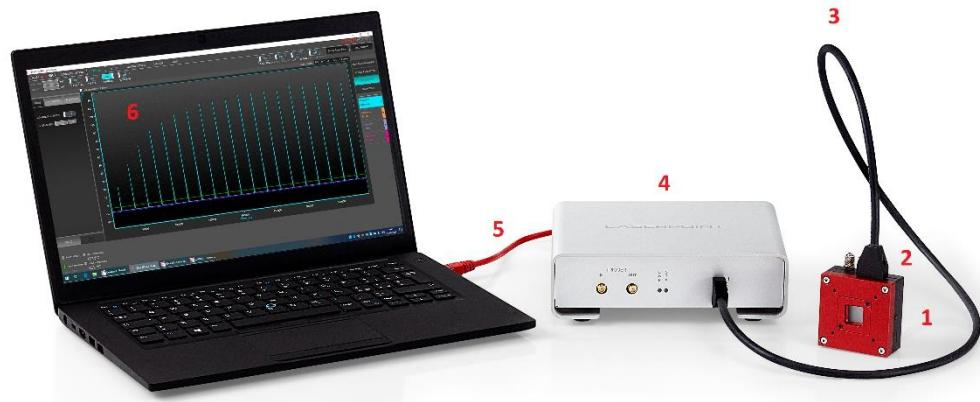

Figure 1: Blink HS system overview
### **WARNING: never touch the HS sensor head active area (accessible from Laser aperture, Figure 1)**
7. **Connect the Ethernet cable to the PC (Figure 1)**